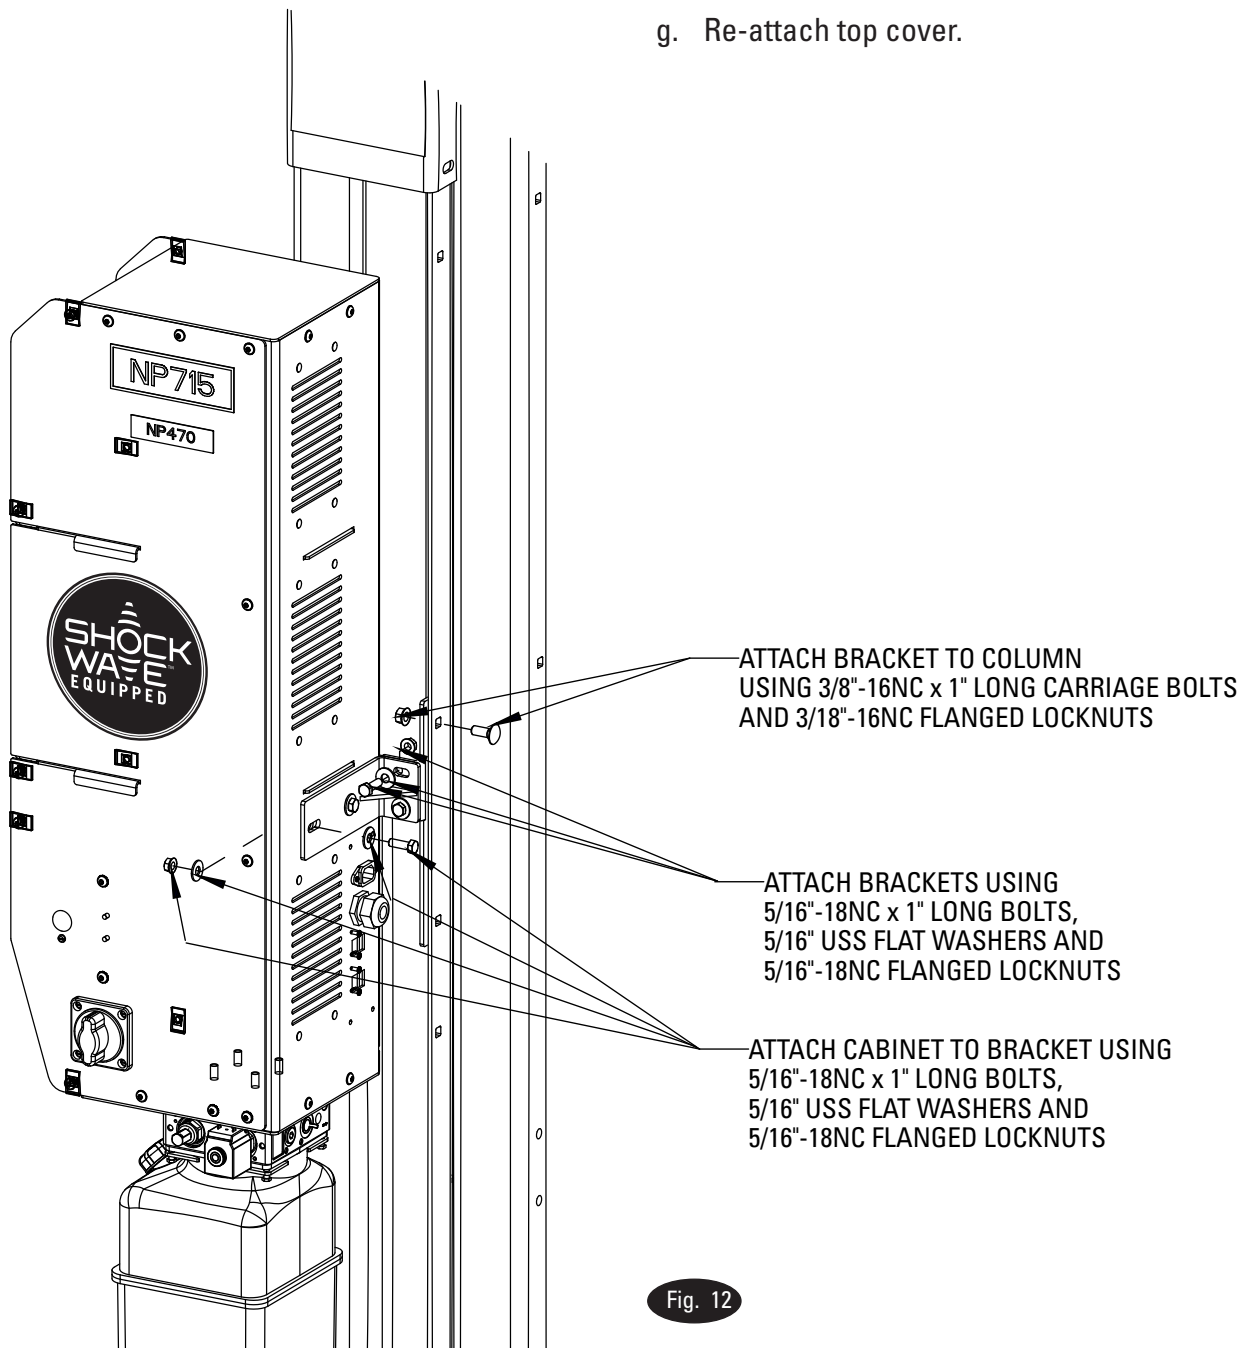

Fig. 12
- a. Secure bottom of DC control cabinet by mounting it to the side of the column using the included brackets. Fasten the back side of the cabinet to the column using the (2) angle brackets.
- b. Fasten the t-shaped bracket to the column, using the included longer (2) 3/8"-16NC x 1" long carriage bolts and (2) 3/8"-16NC flanged locknuts, Figure 12.
- c. Fasten the remaining bracket to the back of the cabinet using the included (2) 5/16"-18NC x 1" long bolts, (4) 5/16" USS flat washers and (2) 5/16"-18NC flanged locknuts, Figure 12.
- d. Attach the two brackets to each other using included (2) 5/16"-18NC x 1" long bolts, (2) 5/16" USS flat washers and (2) 5/16"-18NC flanged locknuts, Figure 12.